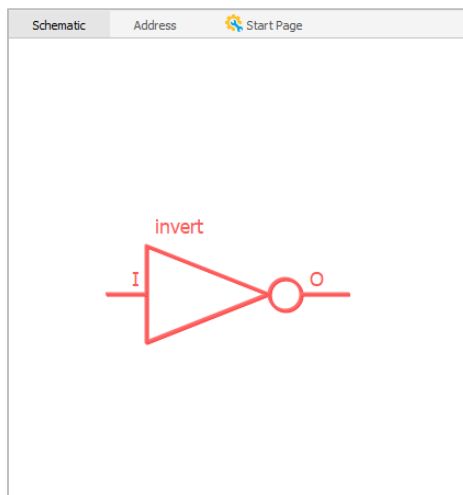

Figure 2.55. Schematic View Shows the Invert Module
1. From the IP Catalog, select the **invert** module. Double-click the invert module or drag and drop invert module to the Schematic view. The schematic block for the invert module in red appears in the Schematic view (Figure 2.55).